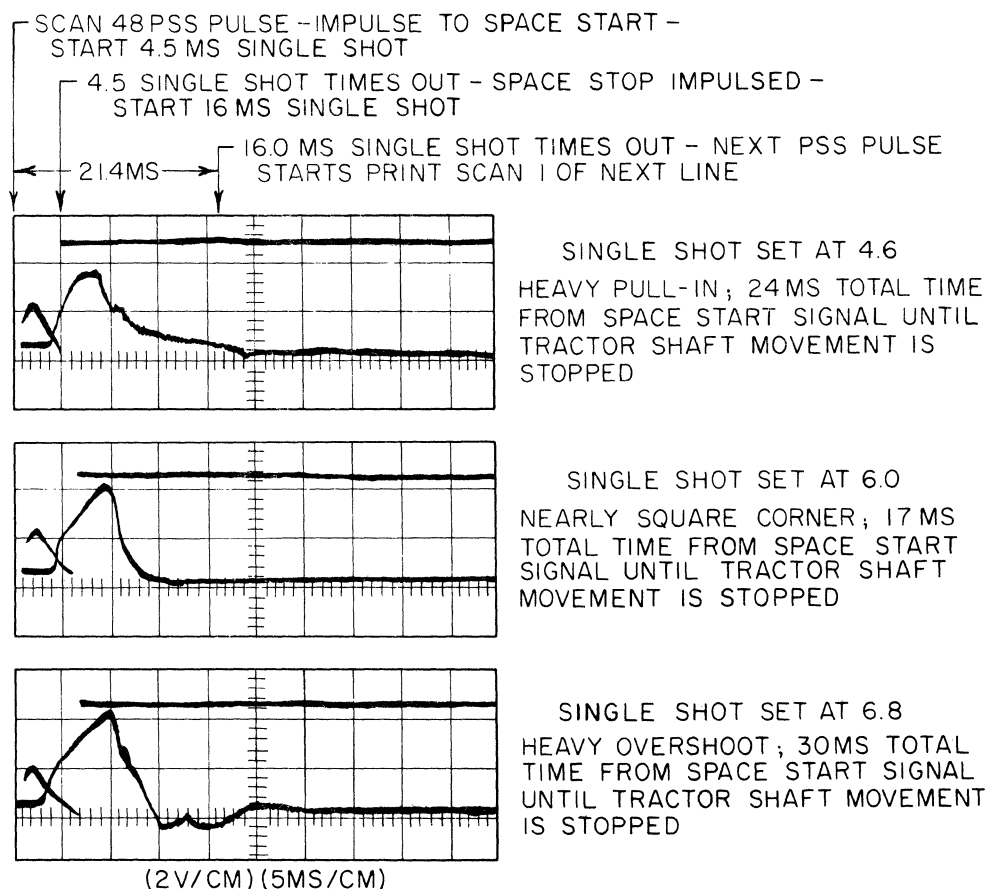

FIG. 13 SINGLE SPACE - 6 LINES PER INCH
3. Adjust 4.5 millisecond single shot for minimum time from start of trace (carriage space start impulse) until scope pattern indicates tractor shaft movement has settled down. (Figure 13)